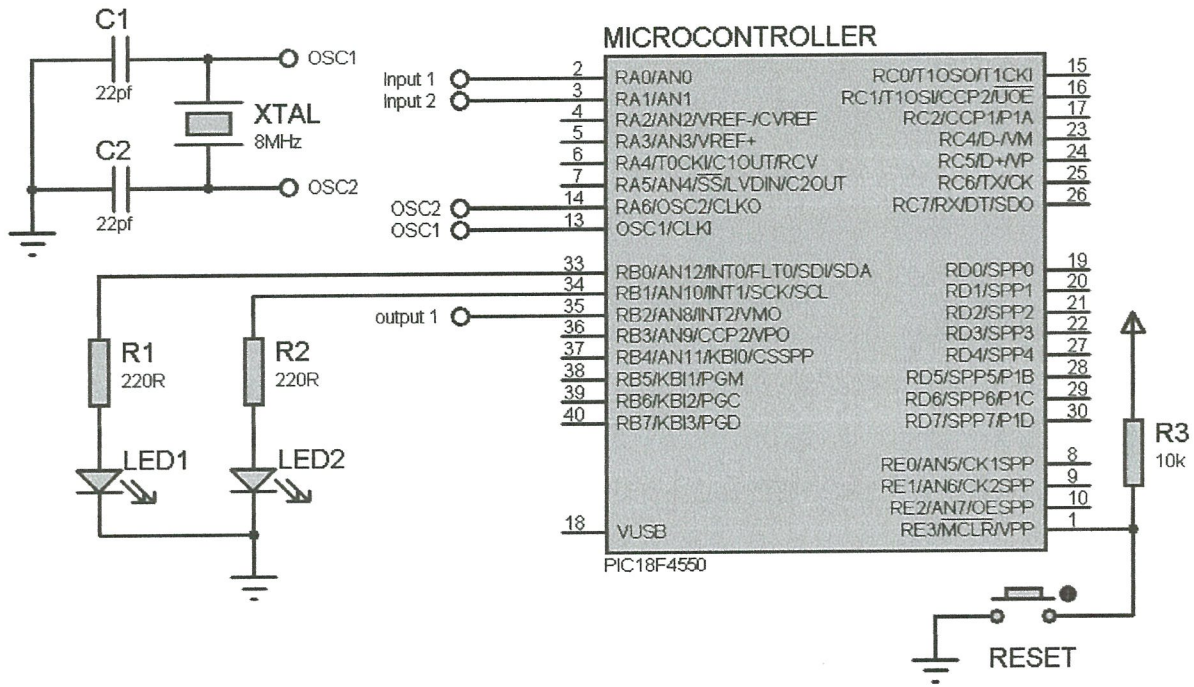

FIGURE Q2
- Q2** **Figure Q2** shows a simple application using PIC 18F4550 to read two analogs input via RA0 and RA1 pins. There are two LEDs connected to RB0 and RB1 respectively. RB2 is connected to another output called output 1. The PIC is clocked at 8MHz.
- (a) Determine and explain the initialization value of ADCON0 to implement the circuit in **Figure Q2**. Suggest the best value for ADCON1 and ADCON2. (5 marks)
- (d) Referring to **Figure Q2**, write a simple C program to light the LED1 when the analog value of RA0 is greater than RA1 and light the LED2 when the analog value of RA1 is greater than RA0. (9 marks)
- Q3** (a) List **THREE** (3) factors that may affect the speed of a motor. (3 marks)